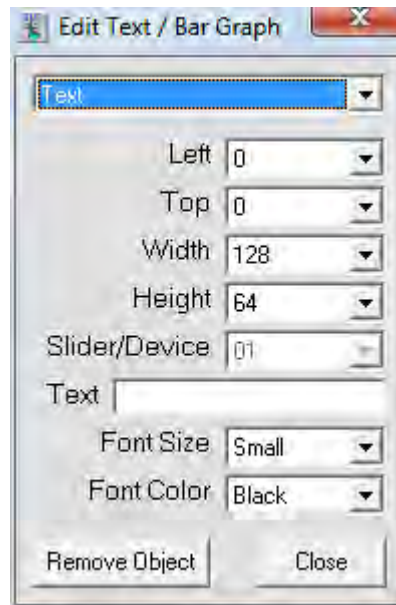

Figure 8 Text / Bar Graph Caption Properties Box
2. From the pull-down menu select "Text" as shown in Figure 8.